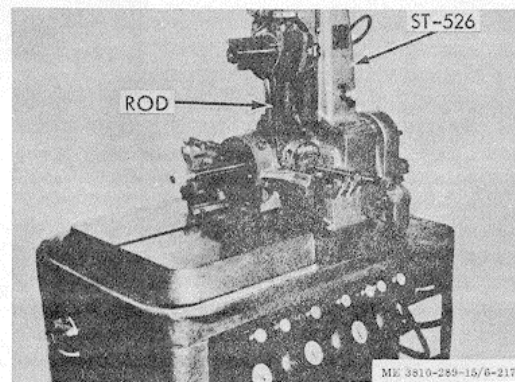

Figure 3-209. Boring piston pin bushing on ST-526.
6. Mount connecting rod in ST-526 Boring Machine, figure 3-209.